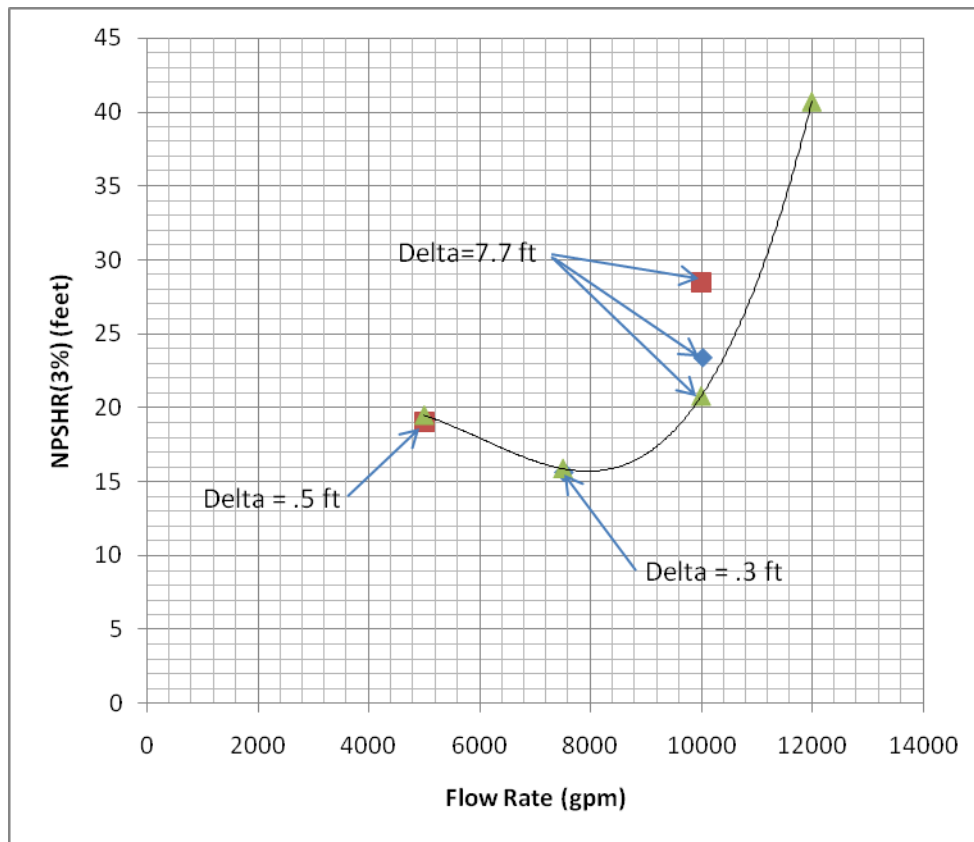

Figure 3: Deviation in NPSHR (3%) values for three similar RHR pumps
- b. The second most accurate method for determining the NPSHR of a pump would be to conduct a Hydraulic Institute NPSH test of a similar model and size pump, at the same speed and impeller diameter. The accuracy of this method for the three different RHR Sultzer pumps was in the range of +/- .1 to +/- 4 feet, as shown in figure 3. Generally the accuracy of this method would be expected to be in the range of +/- 2 to +/- 4 feet, (or +/- 5% to +/-15%, whichever is greater). The accuracy of this method depends on the accuracy of the test method and: